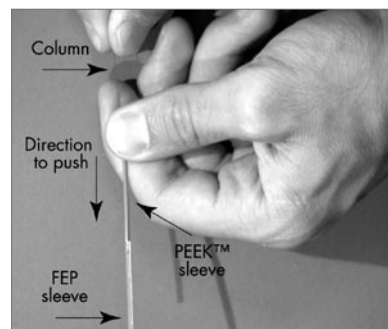

Figure 8 Pushing the PEEK™ sleeve against the FEP sleeve
- 2) Slide the PEEK sleeve toward the tip end until it butts up against the FEP sleeve, as in Figure 8.